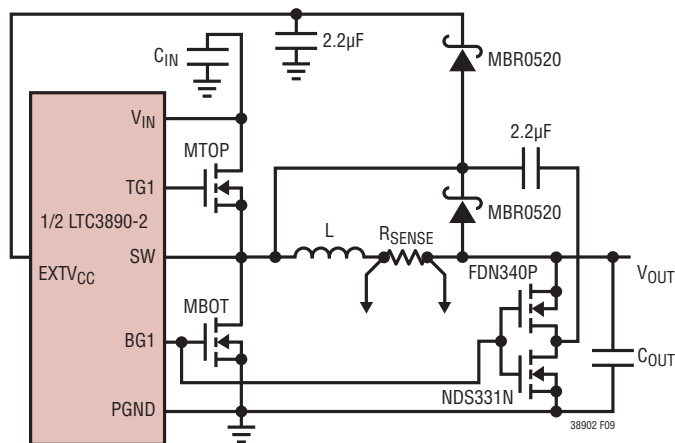

Figure 9. Capacitive Charge Pump for EXT_{VCC}
4. **$EXTV_{CC}$ Connected to an Output-Derived Boost Network.** For 3.3V and other low voltage regulators, efficiency gains can still be realized by connecting $EXTV_{CC}$ to an output-derived voltage that has been boosted to greater than 4.7V. This can be done with the capacitive charge pump shown in Figure 9. Ensure that $EXTV_{CC} < V_{IN}$.